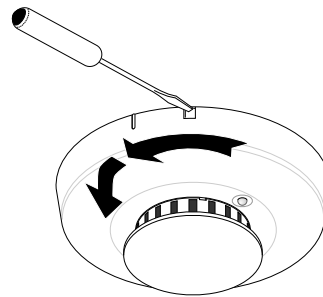

Figure 7. Unlocking the detector
**To remove the detector from the mounting base when the detector/base lock is used,** insert a small screwdriver into the locking tab slot on the side of the base and press in while simultaneously turning the detector counterclockwise 15 degrees. See Figure 7.